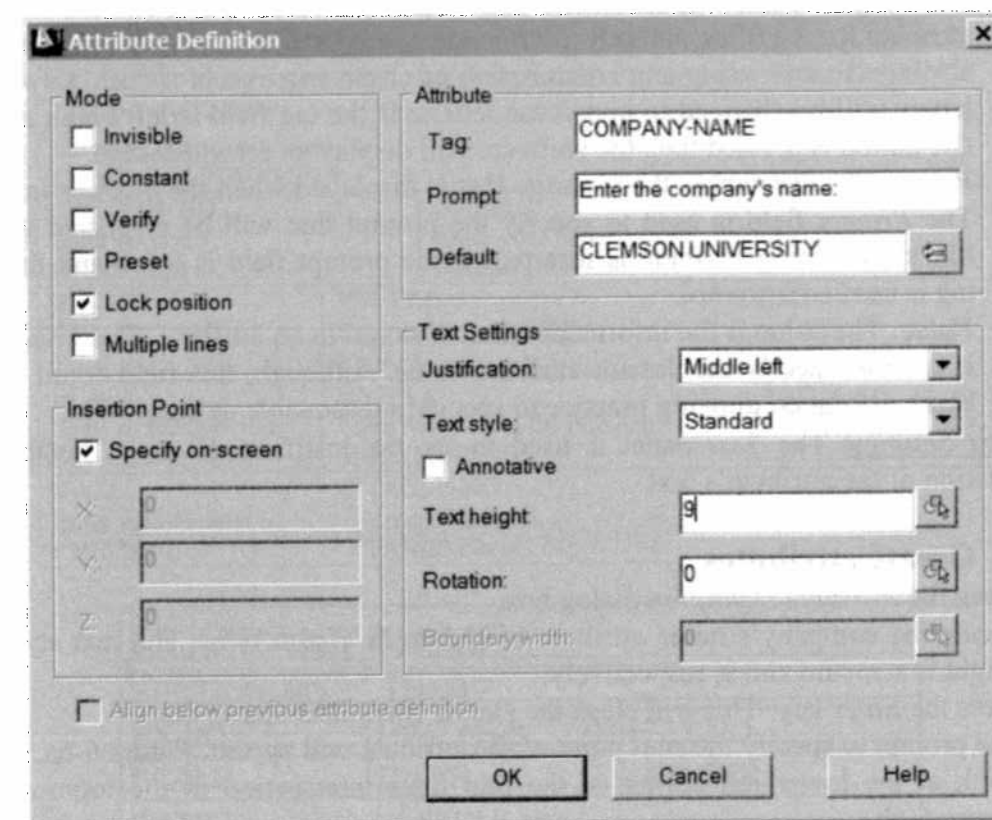

Figure 6-5c
An attribute is defined through the *Attribute Definition* dialog box, Figure 6-5c, and the dialog box is open using one of the following procedures.
The main features of the *Attribute Definition* dialog box (Figure 6-5c) are briefly discussed here.
2. Create the company's name attribute as shown in Figure 6-5c. The text style and height is standard and 9, respectively.